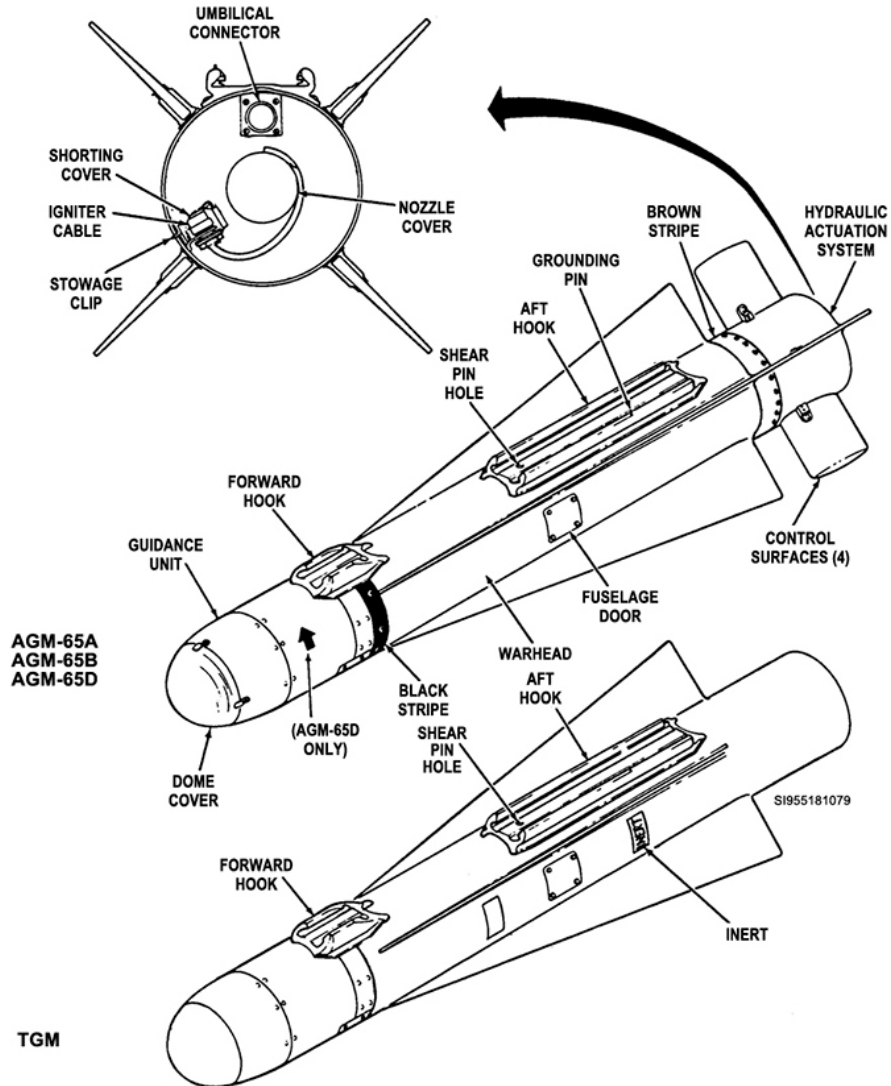

Figure 2-1. AGM-65 missile.
The four models now in use are the AGM-65/A and B, AGM-65/D, F, and G, AGM-65/E, and the AGM-65/H and K (figs. 2-1 and 2-2). The AGM-65/A and B are electro-optically (EO) guided using standard analog signal methods, the AGM-65/D, F, and G are infrared (IR) guided, the AGM-65/E is laser guided, and the AGM-65/H and K are advanced EO guided using digital imaging and enhanced resolution capabilities. These missiles may be carried on the A-10, F-16, or F-15E aircraft. These EO, IR, or laser guided rocket-propelled air-to-ground missiles are used against field fortifications, surface-to-air missile sites, armored vehicles such as tanks, and even ships at sea.